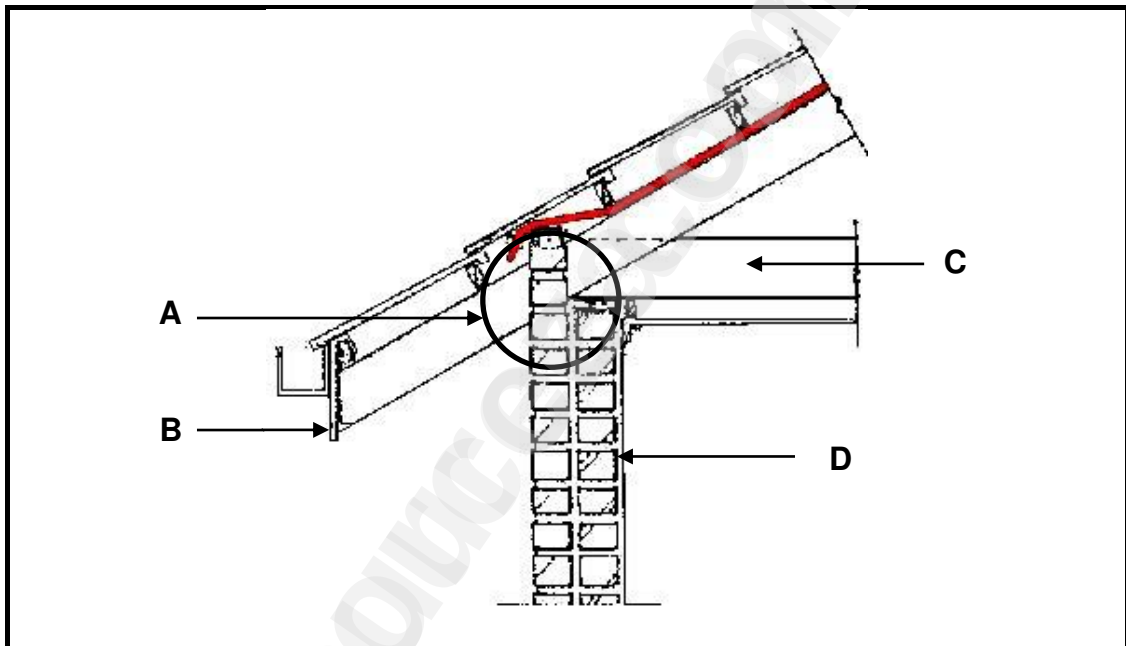

FIGURE 5.6
- 5.6 Answer the questions with regard to the construction in FIGURE 5.6.